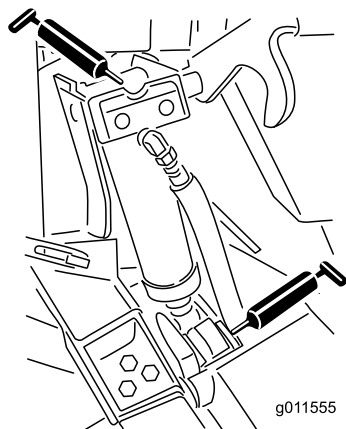

Figure 72
- 4 lift-cylinder bushings (Figure 72)